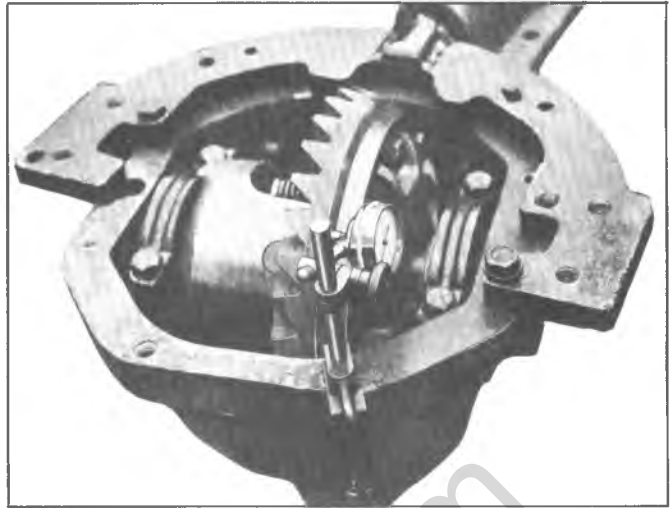

Fig. 13C—Checking Ring Gear Runout
18. If variation in backlash exceeds .003", measure ring gear and case runout as shown in Figure 13C. Gear runout should not exceed .003"; should exceed this limit, check ring gear and case for deformation and/or foreign matter between case and gear.